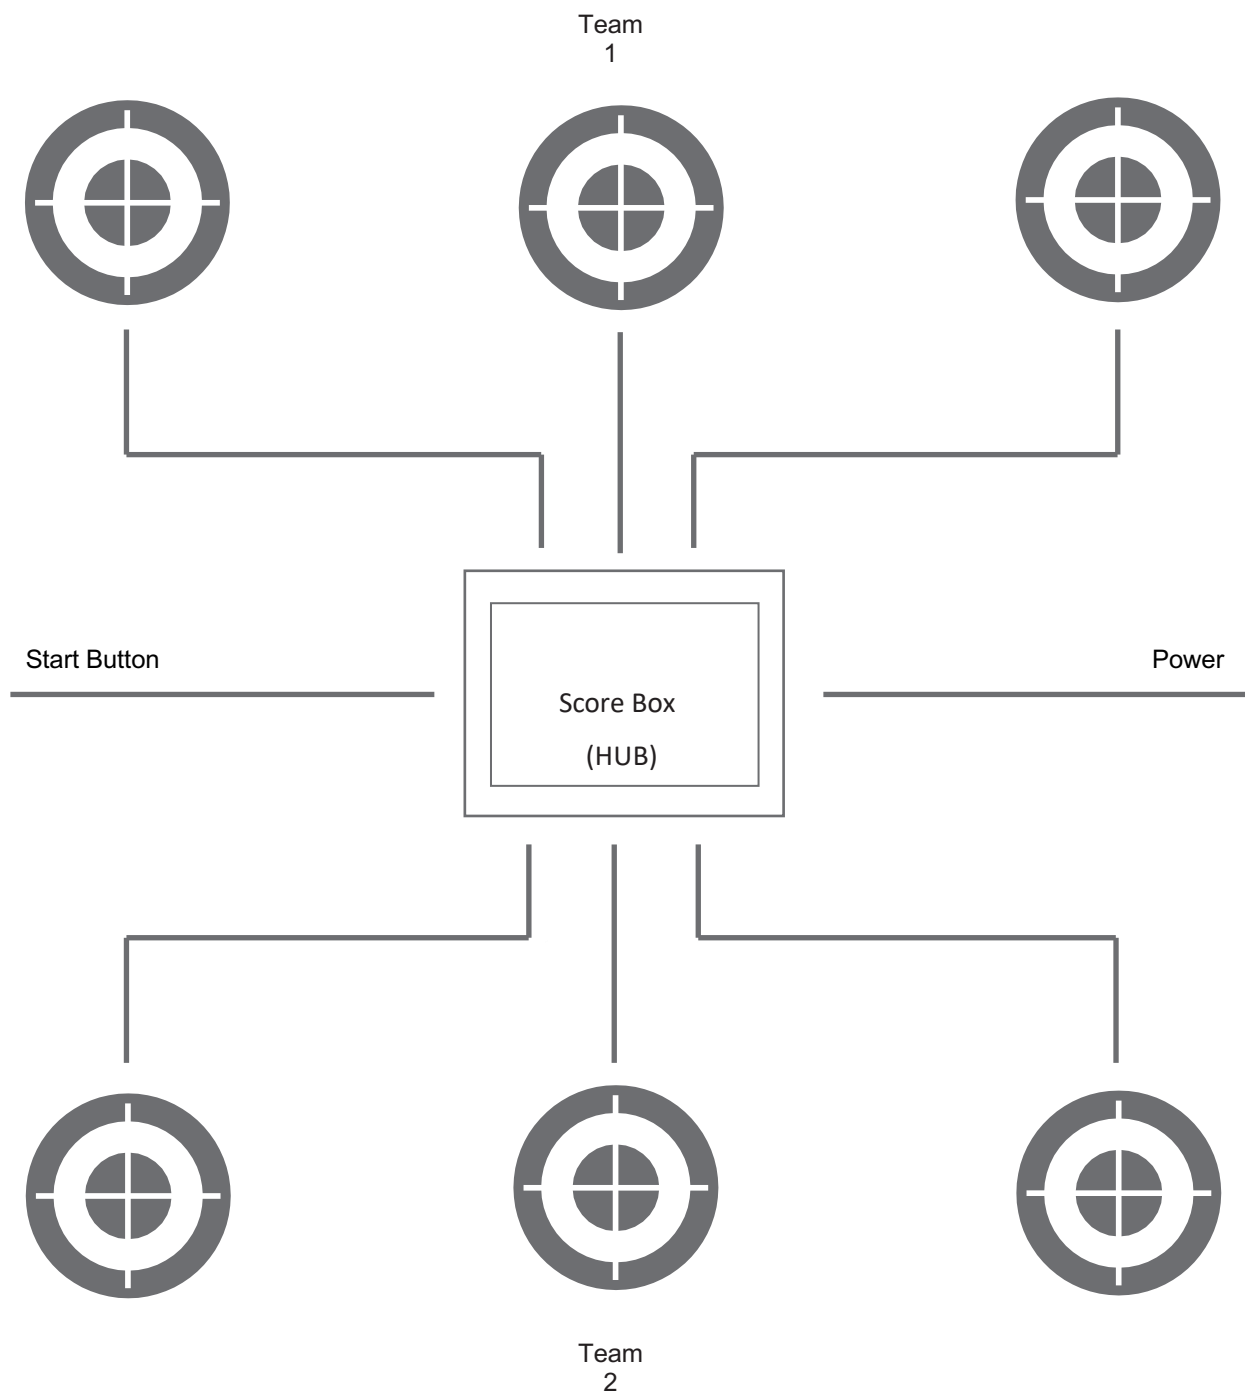

Figure 3.4.3: Typical PowrPlay Cable Connections
- Cables come out the back of each unit. Cables need to be installed as shown in **Figure 3.4.3**